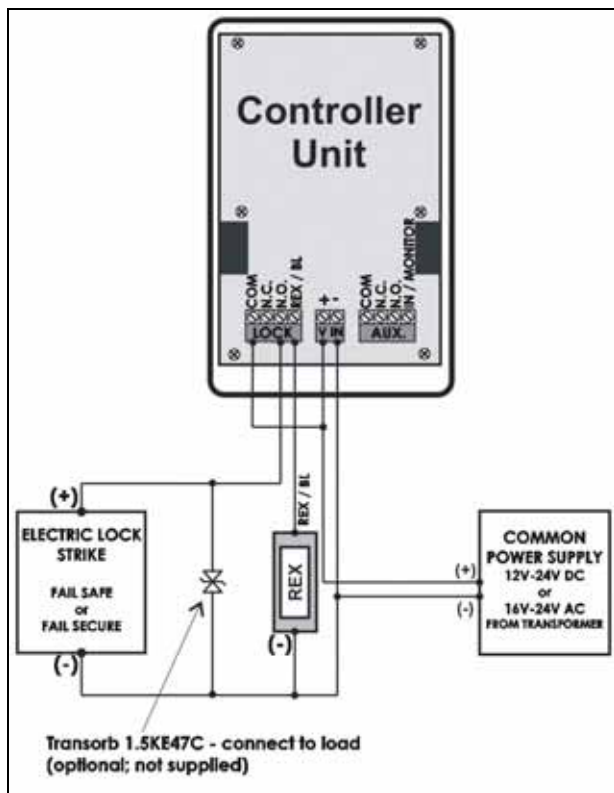

Figure 7: Terminal Block Wiring of the Lock Strike Relay & REX
- Wiring the Lock Strike Relay & REX (Figure 7)